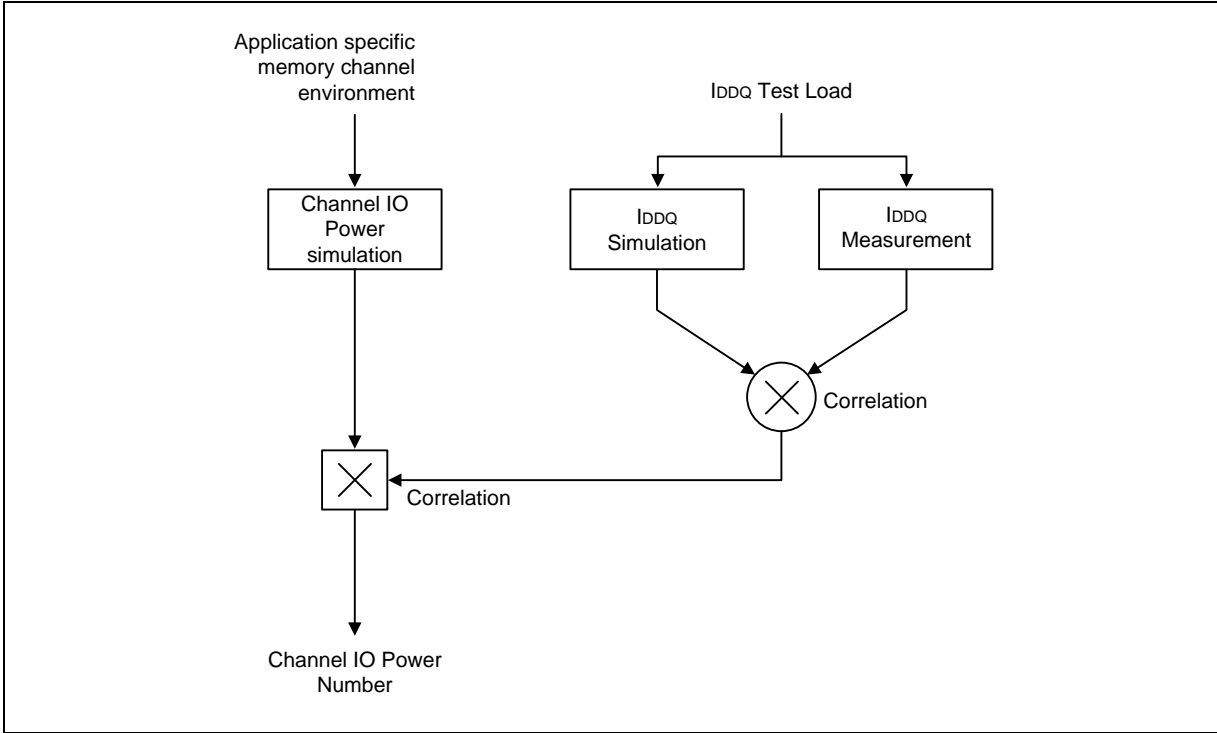

Figure 106 – Correlation from simulated Channel IO Power to actual Channel IO Power supported by  $I_{DDQ}$  Measurement
**Attention: IDDQ values cannot be directly used to calculate IO power of the DDR3L SDRAM. They can be used to support correlation of simulated IO power to actual IO power as outlined in Figure 106. In DRAM module application, IDDQ cannot be measured separately since VDD and VDDQ are using one merged-power layer in Module PCB.**